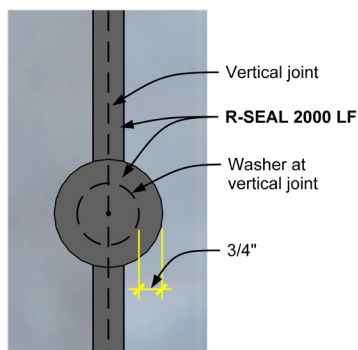

Figure 7
K. **Joint Fasteners:** Where insulation board fasteners fall at a joint, apply and tool R-SEAL 2000 LF continuously over the entire washer and a minimum of 3/4" radially beyond the washer. **Reference Figure 7.**
L. **Field Fasteners:** When NOT using Rodenhouse, Inc. Thermal-Grip®ci Prong Washers and Grip-Deck® Self-Drilling Screws, apply and tool R-SEAL 2000 LF continuously over the entire washer and a minimum of 3/4" radially beyond the field washers, similar to **Figure 7.**